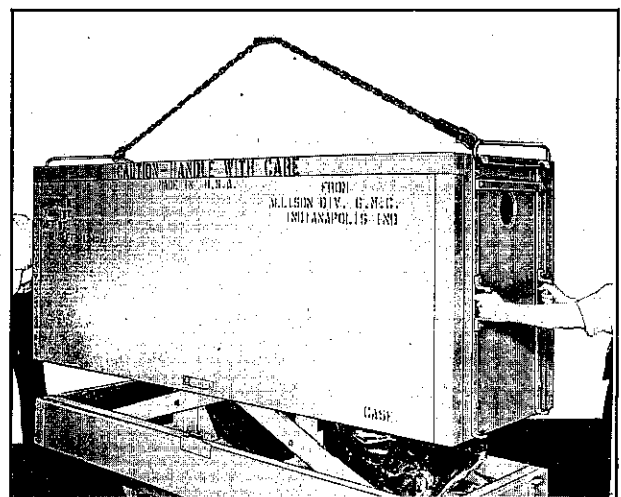

Figure 32—Lowering Shipping Box Cover over Engine.
(9) Lower the shipping box cover over the engine in such a manner as not to rupture the envelope. See Figure 32. Secure cover with four bolts.